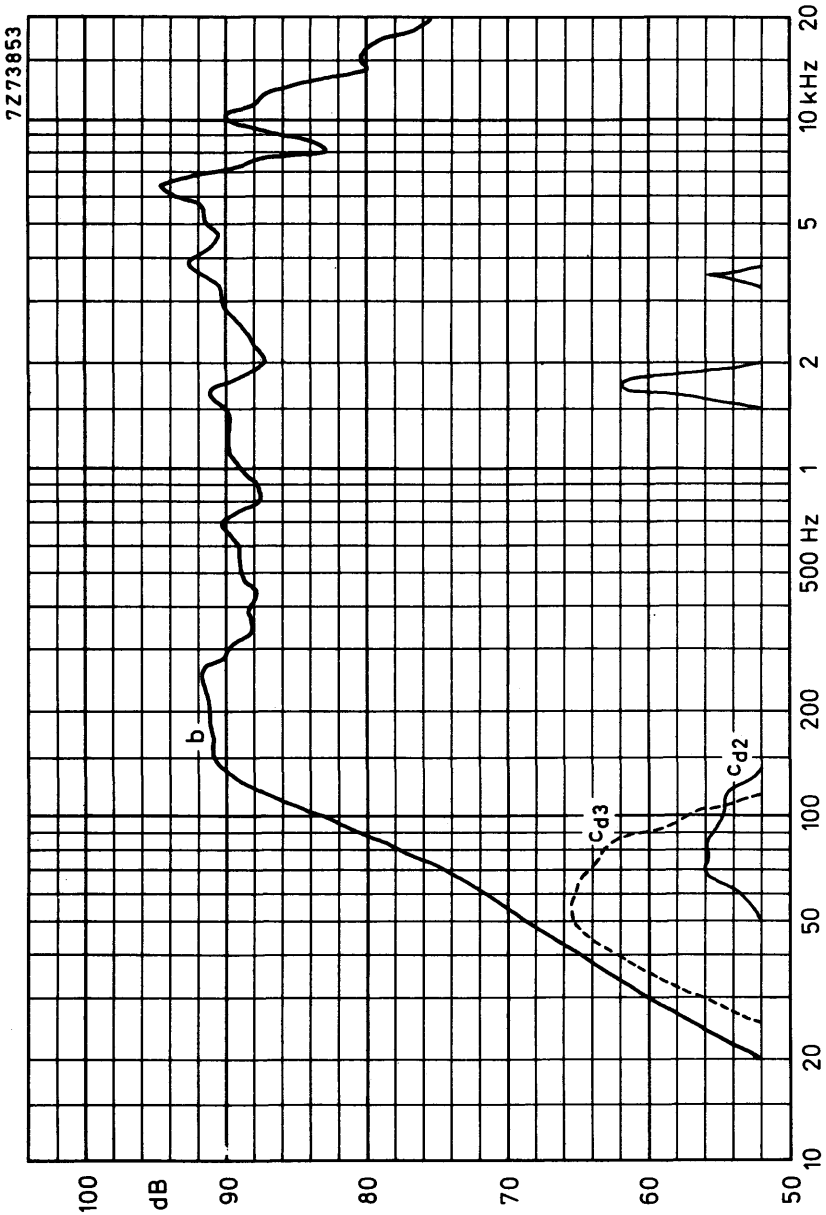

Fig. 2
**FREQUENCY RESPONSE CURVES** (see Fig. 2)